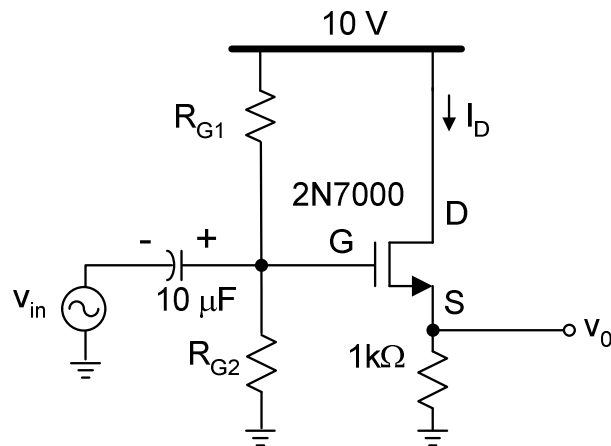

Fig. 4. Common-drain configuration
- For the circuit in Fig. 4, and using the parameters you extracted in the previous lab for the 2N7000, find the values of drain current and biasing points such that the magnitude of the small signal voltage gain is greater than -2dB. Select the resistors lumped to the gate such that $R_{B1}||R_{B2} > 100\text{ k}\Omega$. Check first the operating point of your design, and verify that the voltage gain is approximately given by $g_m(R_L||1/g_m)$. Compute the values for the input impedance, and output impedance.
- Construct the circuit in Fig. 4 in Pspice and compare the simulated results (input impedance, output impedance and voltage gain) and hand calculations. Explain the differences if any.
- Obtain the frequency response of Fig. 4, and find the low frequency and high frequency poles.
10. Construct the circuit shown in Fig. 4; use the resistor values computed in the pre-lab and be sure you verify these values using Spice simulations. You will probably need to use a potentiometer in conjunction with gate resistors as described earlier to achieve the required bias.